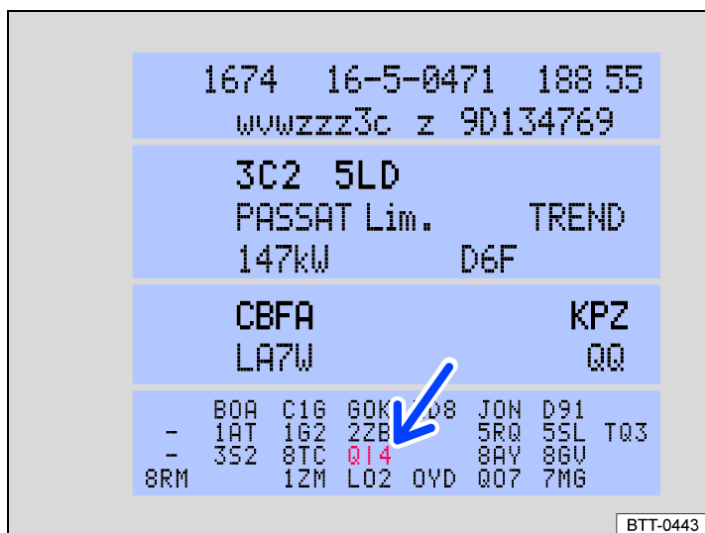

Fig. 1 Vehicle data sticker with PR number for the relevant service (illustration).
- From the PR number of the vehicle data sticker → *Fig. 1* (arrow) .